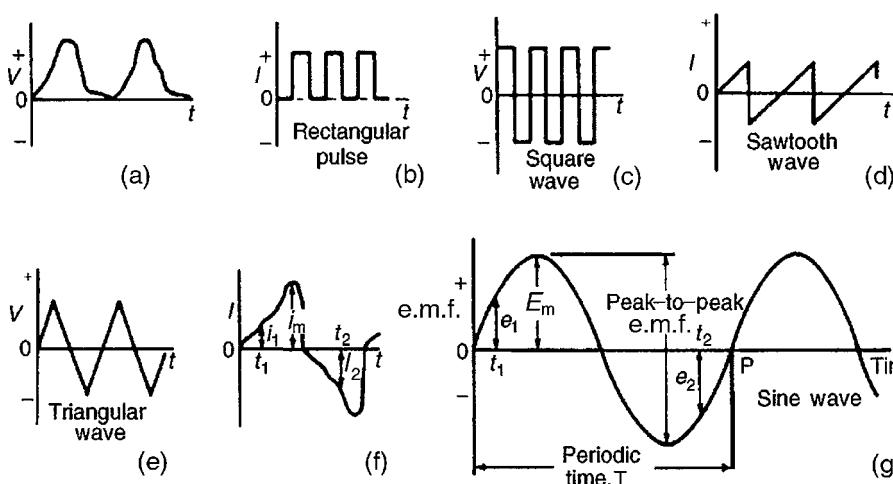

Figure 14.3
If values of quantities which vary with time  $t$  are plotted to a base of time, the resulting graph is called a **waveform**. Some typical waveforms are shown in Fig. 14.3. Waveforms (a) and (b) are **unidirectional waveforms**, for, although they vary considerably with time, they flow in one direction only (i.e. they do not cross the time axis and become negative). Waveforms (c) to (g) are called **alternating waveforms** since their quantities are continually changing in direction (i.e. alternately positive and negative).
A waveform of the type shown in Fig. 14.3(g) is called a **sine wave**. It is the shape of the waveform of e.m.f. produced by an alternator and thus the mains electricity supply is of 'sinusoidal' form.
One complete series of values is called a **cycle** (i.e. from O to P in Fig. 14.3(g)).
**Instantaneous values** are the values of the alternating quantities at any instant of time. They are represented by small letters,  $i$ ,  $v$ ,  $e$ , etc., (see Fig. 14.3(f) and (g)).
The largest value reached in a half cycle is called the **peak value** or the **maximum value** or the **amplitude** of the waveform. Such values are represented by  $V_m$ ,  $I_m$ ,  $E_m$ , etc. (see Fig. 14.3(f) and (g)). A **peak-to-peak** value of e.m.f. is shown in Fig. 14.3(g) and is the difference between the maximum and minimum values in a cycle.